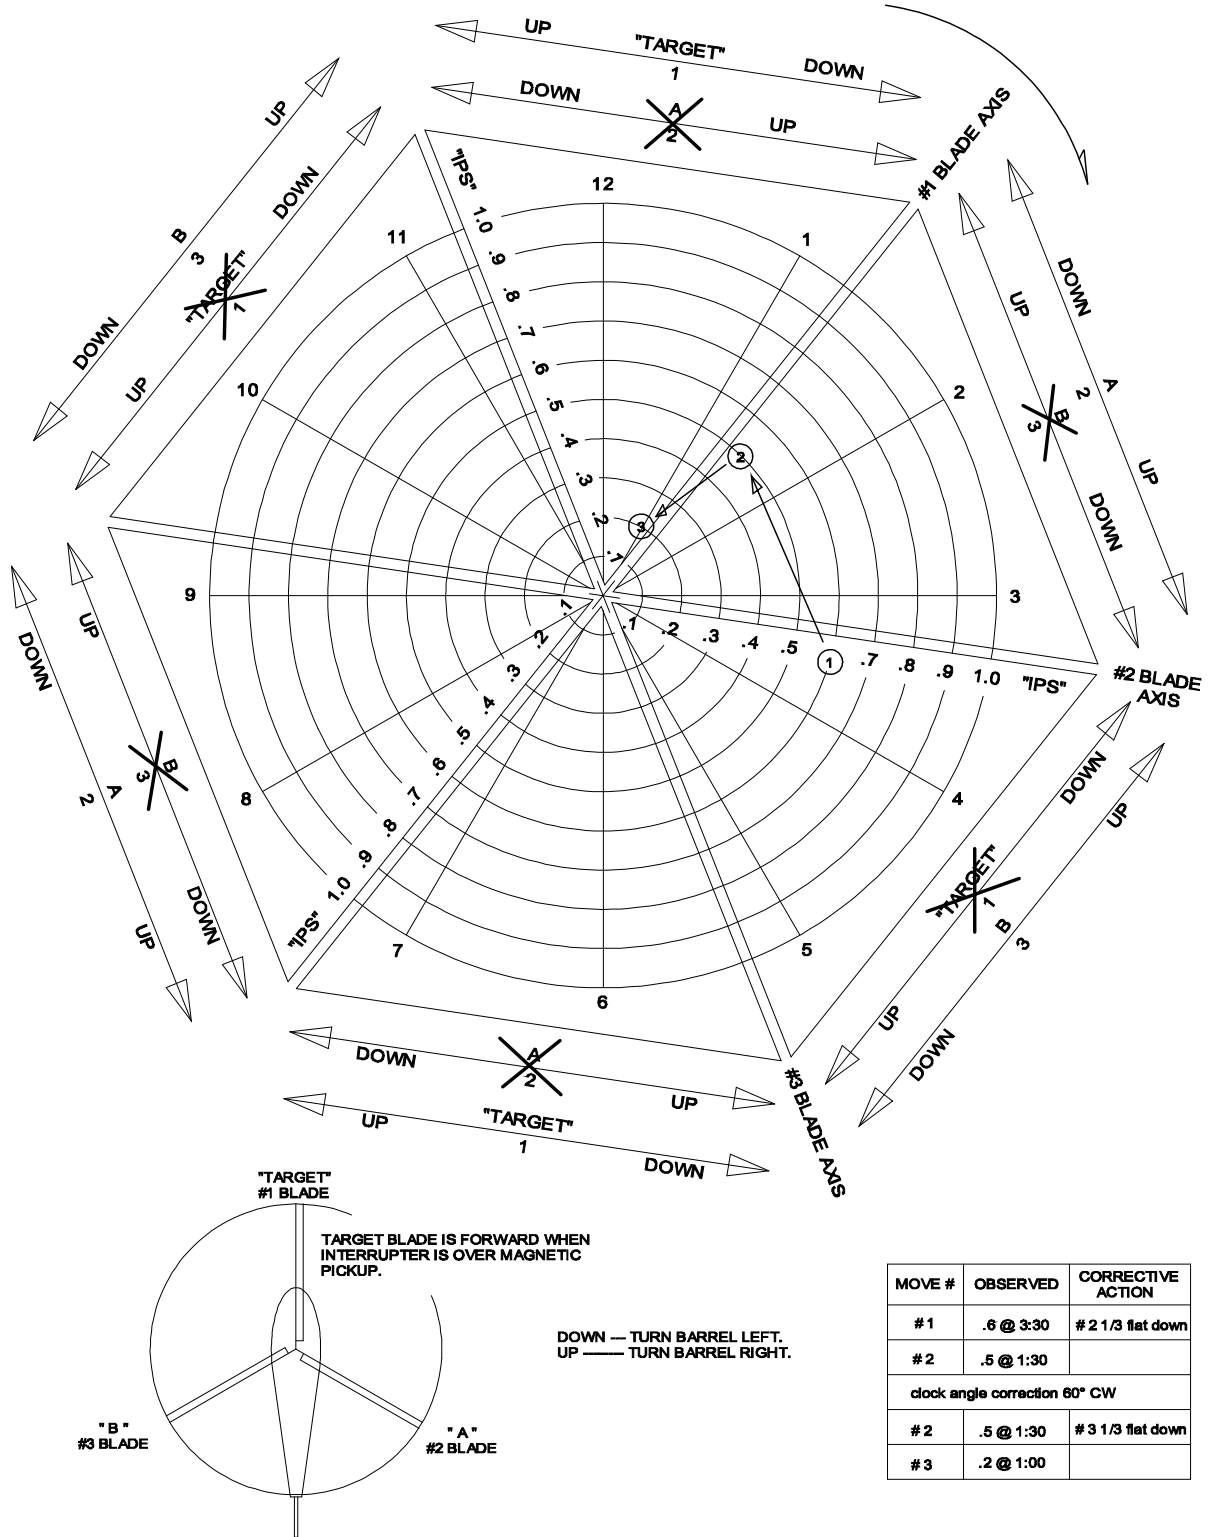

Figure 12-6.3. Main Rotor Clock Angle Correction Example
4. According to the corrected chart, the #3 blade should be adjusted 1/3 flat down. A reading of .2 ips at a clock angle of 1:00 for the third hover run is plotted on the corrected chart (Figure 12-6.3). The move corresponds well with the corrected chart and the tracking procedure is complete.